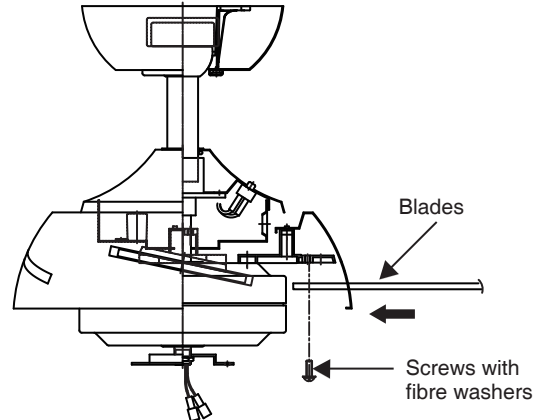

Fig. 11
1. Insert the blade through the blade slot in the decorative housing. Align the holes on the blade and blade arm, making sure the holes are also aligned and secure with fibre washers and screws provided. (Fig. 11)